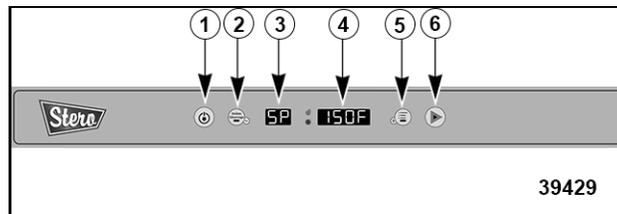

Fig. 45
1. Start a normal 2-minute washing cycle by pressing Start button (6, Fig. 45).